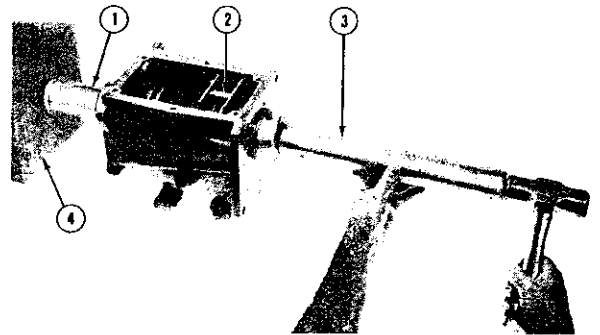

FIG. J-31—INSTALLING MAIN DRIVE GEAR BEARING
l. Install main drive gear and mainshaft bearings using bearing installer set W-331 together with a thrust yoke Tool W-334 to prevent damage to the synchronizer clutch. Install thrust yoke Tool W-334 into the second speed gear groove and between the main drive gear (steel) clutch teeth and bronze synchronizer ring. Use both bearing drivers (W-331, SP-5364) and a backup block when driving bearings into position, as shown in Figs. J-31 and J-32.